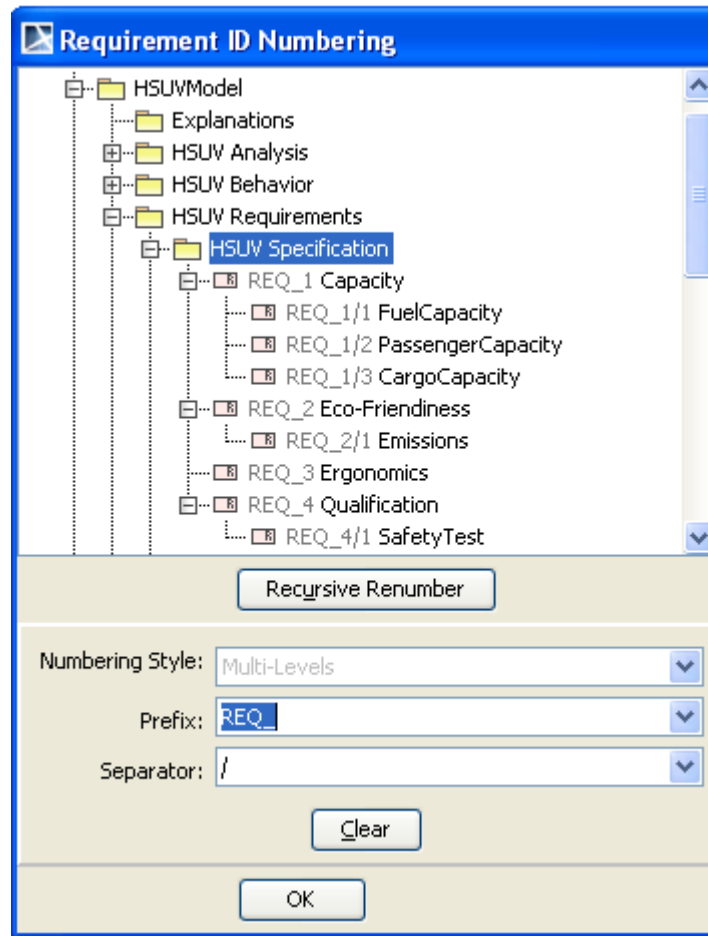

Figure 142 -- Customizing Numbering Style, Prefix, and Separator Values Defined for a Package
6. You can change the **Numbering Style**, **Prefix** and **Separator** values defined in the 'HSUV Specification' package (called Package-specific Numbering Configuration) to renumber the requirements in this package (Figure 142).
8. You can click the **Clear** button under the **Separator** box to remove the Package-specific Numbering Configuration. For example, select the 'HSUV Specification' package in the browser (Figure 142) and click the **Clear** button. The Package-specific Numbering Configuration of the 'HSUV Specification' package will then be removed. Thus, the available 'numbering configuration' in an owning package will be used instead, which is, in this case, the 'Data' package.